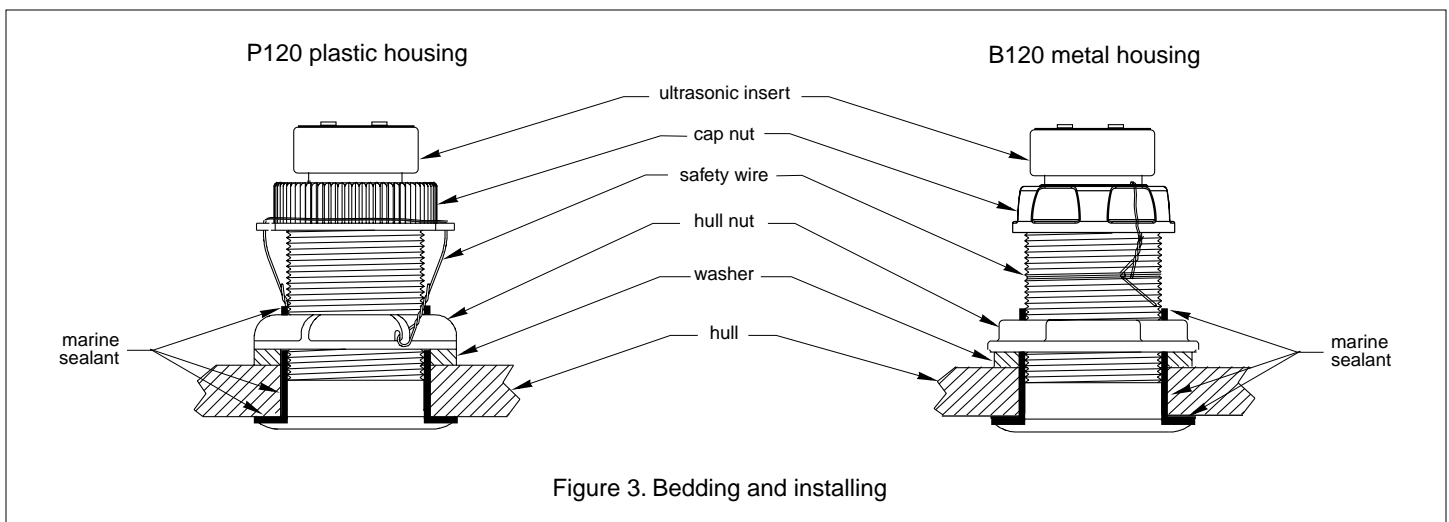
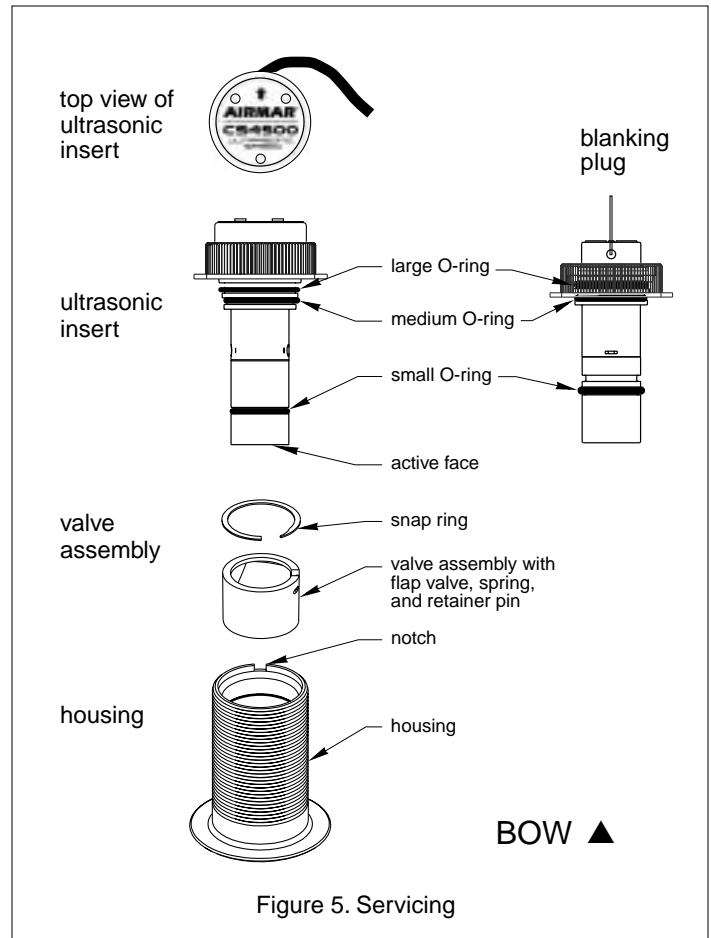

Figure 3. Bedding and installing
Figure 5. Servicing
Apply a 2mm (1/16") thick layer of sealant around the lip of the housing that contacts the hull and up the sidewalls of the housing. The sealant *must* extend 6mm (1/4") higher than the combined thickness of the hull, washer(s), and hull nut (see Figure 3). This will ensure there is sealant in the threads to seal the hull and to hold the hull nut securely in place.
1. From outside the hull, push the housing into the mounting hole using a twisting motion to squeeze out excess sealant (see Figure 3). **Align the arrow on the lip of the housing pointing forward toward the bow.** If the sensor is not installed on the centerline, angle the housing slightly toward the centerline to align it with the water flow.
3. Screw the hull nut in place *being sure* the notch on the upper rim of the housing and the corresponding arrow on the lip are still positioned forward toward the bow (see Figures 3 and 5). (If your plastic housing has wrenching flats, do not clamp tightly, possibly causing the housing to fracture.)
6. Slide the ultrasonic insert into the housing with the arrow on the top pointing forward toward the bow. Seat it into place with a pushing twisting motion until the key fits into the notch. The arrow on the tip of the insert, the notch in the housing, and the arrow on the lip will be aligned. *Be careful* not to rotate the housing and disturb the sealant. Screw the cap nut in place and **hand-tighten** only. *Do not* over-tighten (see Figure 3).
2. Using the 51 mm or 2" hole saw, cut the hole from outside the hull through the *outer* skin only (see Figure 5).
1. Inspect the O-rings (replace if necessary) and lubricate them with the silicone lubricant supplied or petroleum jelly (Vaseline®) (see Figure 5).
3. Remove the ultrasonic insert from the housing by removing the safety wire from the cap nut (see Figure 3).
5. Slide the blanking plug into the housing with the arrow pointing forward toward the bow (see Figure 5). Seat it into place with a twisting motion until the key fits into the notch. Screw the cap nut in place and **hand-tighten** only. Do not over-tighten. Reattach the safety wire (see Figure 3).
Aquatic growth will seriously affect the ultrasonic insert's performance. Clean the active face with a dull putty knife *being careful* to avoid scratching the surface (see Figure 5). If fouling is severe, lightly wet sand the surface with fine grade (#320) wet/dry paper.
O-rings *must* be free of abrasions and cuts to ensure a watertight seal. Install the **large** O-ring near the cap nut, the **medium** O-ring below it, and the **small** O-ring near the active face. The three remaining O-rings are placed in similar positions on the blanking plug (see Figure 5).
2. Remove the ultrasonic insert from the housing (see Figure 3).
3. Remove the snap ring from the valve assembly using a screwdriver to pry the end of the ring free (see Figure 5).
5. Slide the blanking plug (or ultrasonic insert) into the housing with the arrow on the top pointing forward toward the bow. Seat the plug into place with a twisting motion until the key fits into the notch. Screw the cap nut in place and **hand-tighten** only. Do not over-tighten. Reattach the safety wire (see Figure 3).
6. Clean, repair, or replace the valve assembly so the flap valve moves freely and seats against the valve housing (see Figure 5).
8. Slide the ultrasonic insert into the housing with the arrow on the top pointing forward toward the bow. Screw the cap nut until there is resistance. Seat the ultrasonic insert into place by rotating it until the key clicks into the notch. Continue to screw the cap nut into place **hand-tightening** only. Do not over-tighten. Re-attach the safety wire (see Figure 3).